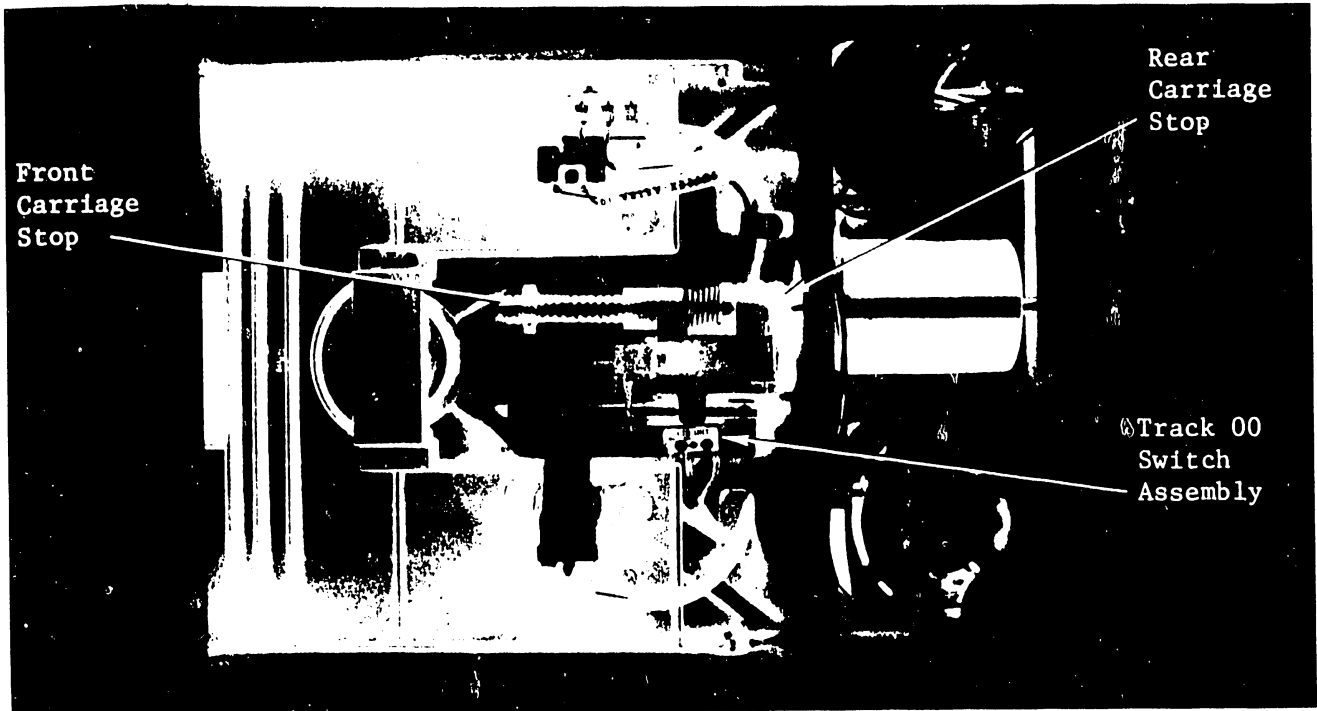

FIGURE 15
- 3) Loosen rear carriage stop set screw (Figure 15).
5.5 TRACK 00 SWITCH ASSEMBLY (See Figure 15)